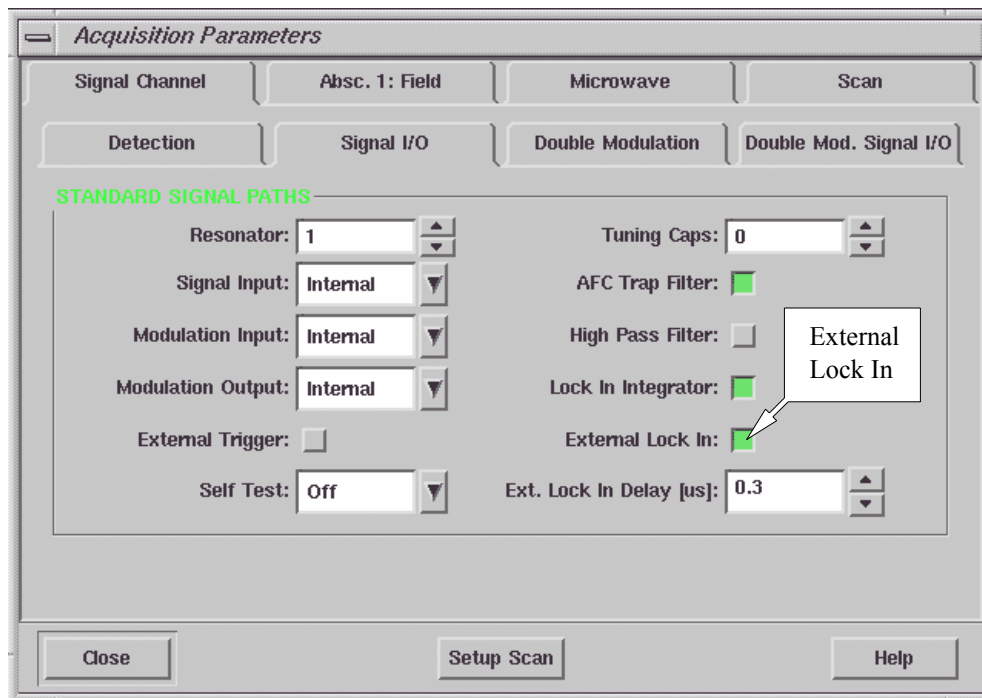

Figure 14-19 Parameter setup for the optical modulation.
2. **Enable external modulation.** Open the Parameter dialog box and click the Signal I/O tab of the Signal Channel folder. (See Figure 14-19.) Click External Lock In to activate it (green). You must change the modulation phase by using an external phase shifter. The Ext. Lock In Delay does not change the phase in this case.
3. **Set more parameters.** Since this is a low frequency modulation experiment, we recommend deactivating (not green) the **High Pass Filter** button and selecting the **Lock In Integrator** option to reduce the noise. (See Figure 14-19.) Make sure you enter a modulation frequency value below 6 kHz in the **Modulation Frequency** of the **Detection** folder. This forces the acquisition software to use the low frequency signal channel.